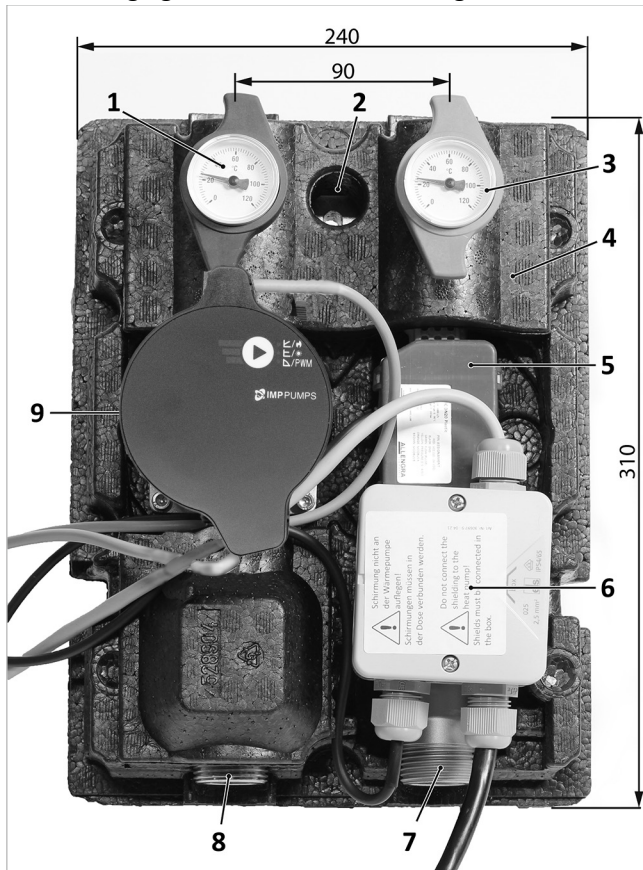

Fig. 1: Buffer charging station PLAS-WP-WM-1
1. Hold the station against the wall and mark the hole (see → p. 5, fig. 1 (2)).